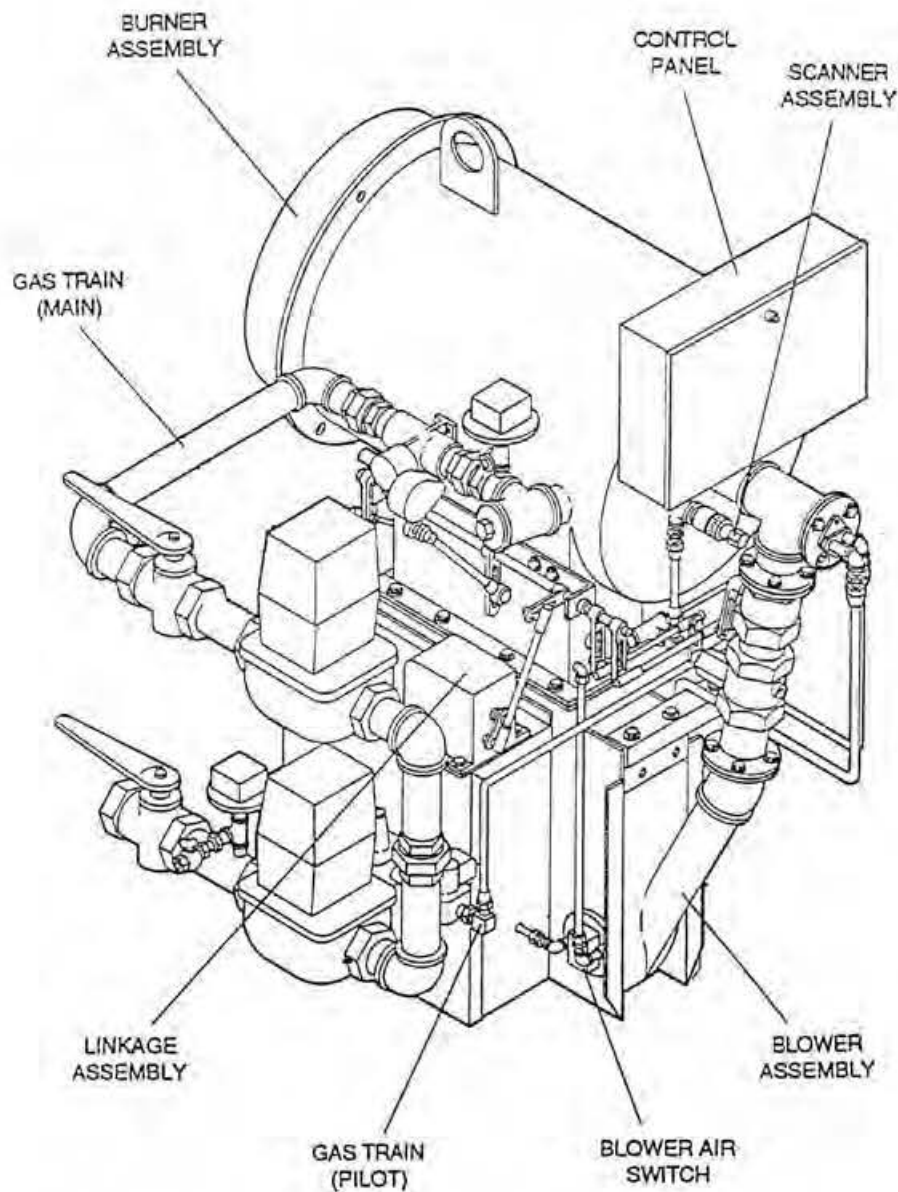

Figure 1a. General Burner Arrangement
1. Familiarize yourself with the burner by studying Figures 1a and 1b "General Burner Arrangement."